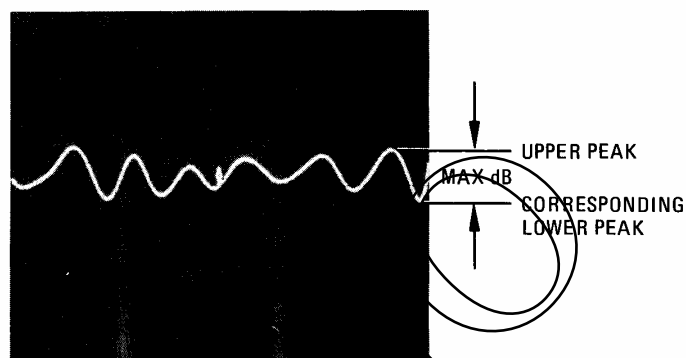

Figure 4-8. Test Port Open/Short Ratio Magnitude, >2 MHz
- (1) On the 8505A Signal Processor Channel 1, press DISPLAY MKR then ZRO pushbuttons to place marker on reference line and to zero digital readout.
- (2) Set MARKER 1 to corresponding lower peak (see Figure 4-8) and record peak-to-peak variation indicated on Channel 1 MKR digital readout.